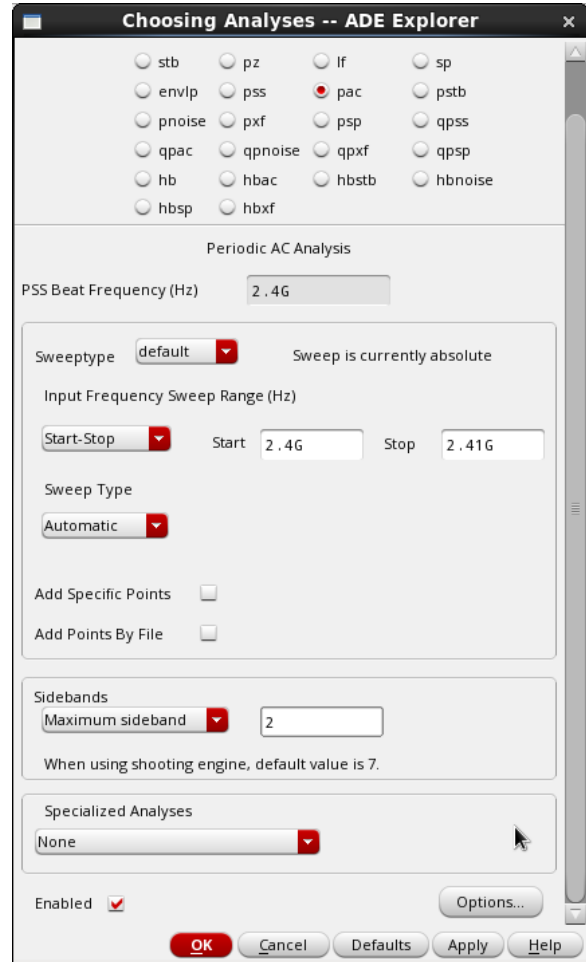

Fig.20
- Enable PAC analysis and configure it as shown in Fig. 20.